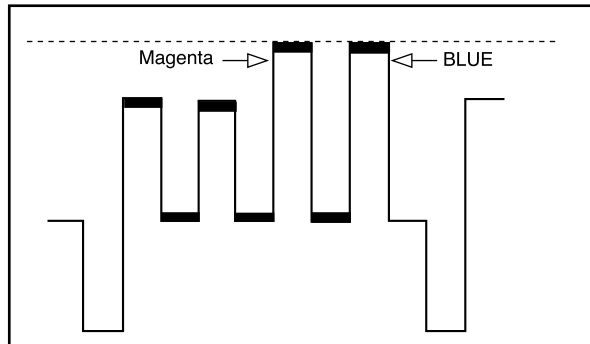

Fig. 3-3
1. Connect the oscilloscope to CNA704 ③ PIN[B].
2. Using the volume keys on the jig remote controller, adjust the top excursions of waveform "Magenta" and "Blue" to be linear (Fig. 3-3).